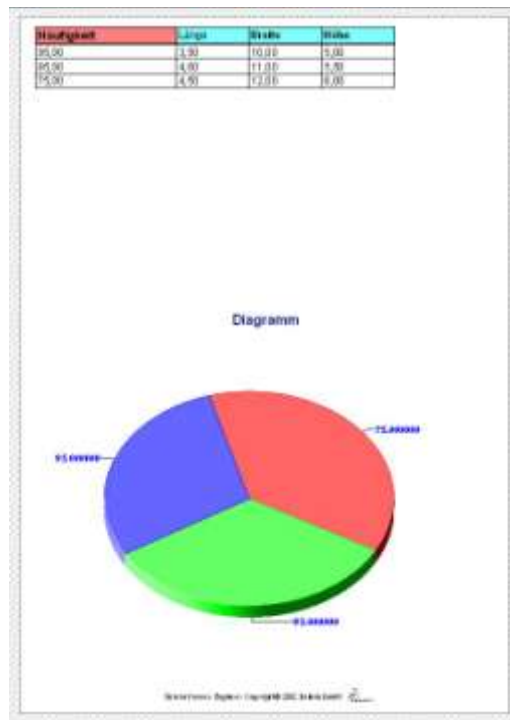

Figure 61: Example of a Pie Diagram
- 10) Save your print object and return to Delmia Process Engineer®. Your printout should resemble Figure 61.